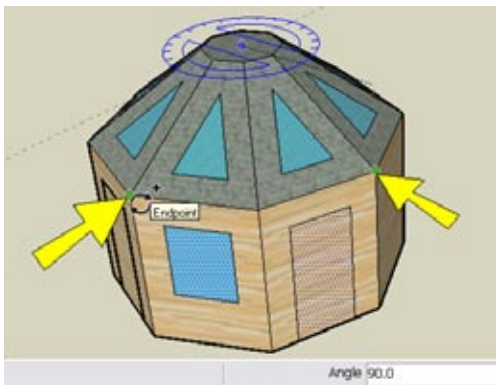

Figure 1-53
15. Because you are copying both faces at once, the rotation will be double what it was previously. Click two corner points that are 90 degrees apart (Figure 1-53).